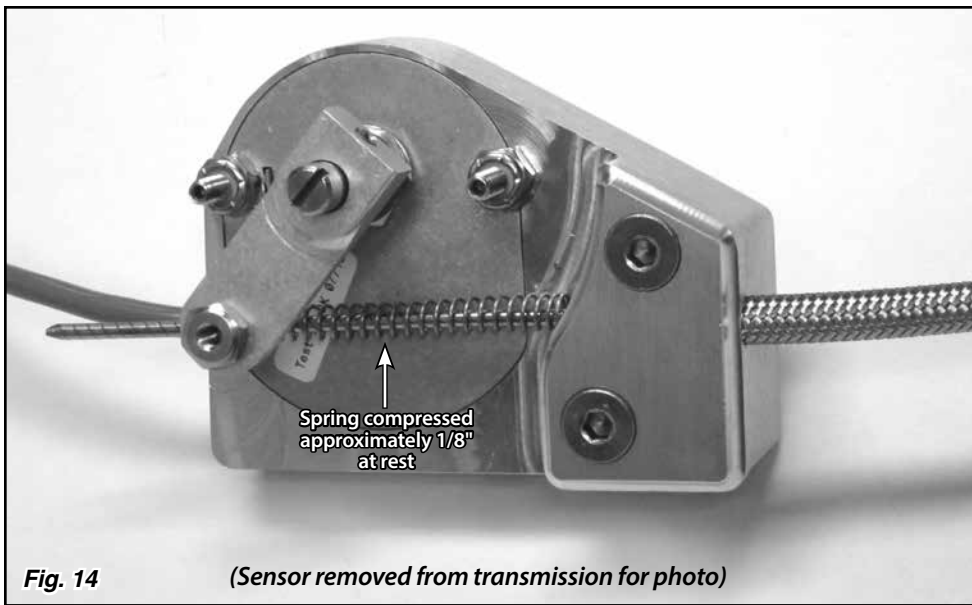

Fig. 14 (Sensor removed from transmission for photo)
- All applications with the trans arm pointing UP: Push the sensor arm up against the spring, so that the spring is compressed approximately 1/8" at rest in Park. Fig. 14 While holding that position, tighten the set screw in the index cable stop on the sensor arm using a 1/16" Allen wrench.